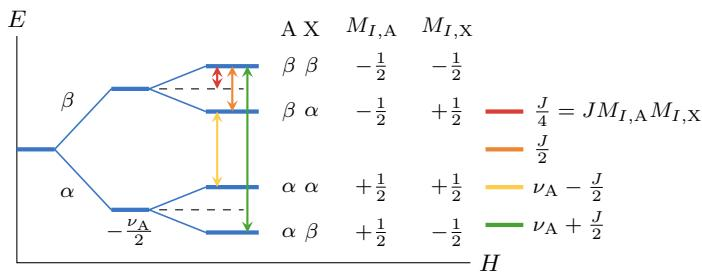

Figure 9.4: Formation of a pair of NMR doublets.
- Per the definitions of the green and yellow gaps in Figure 9.4, the energy difference between the two states at the end of the α - and β -manifolds will just be ν_A .